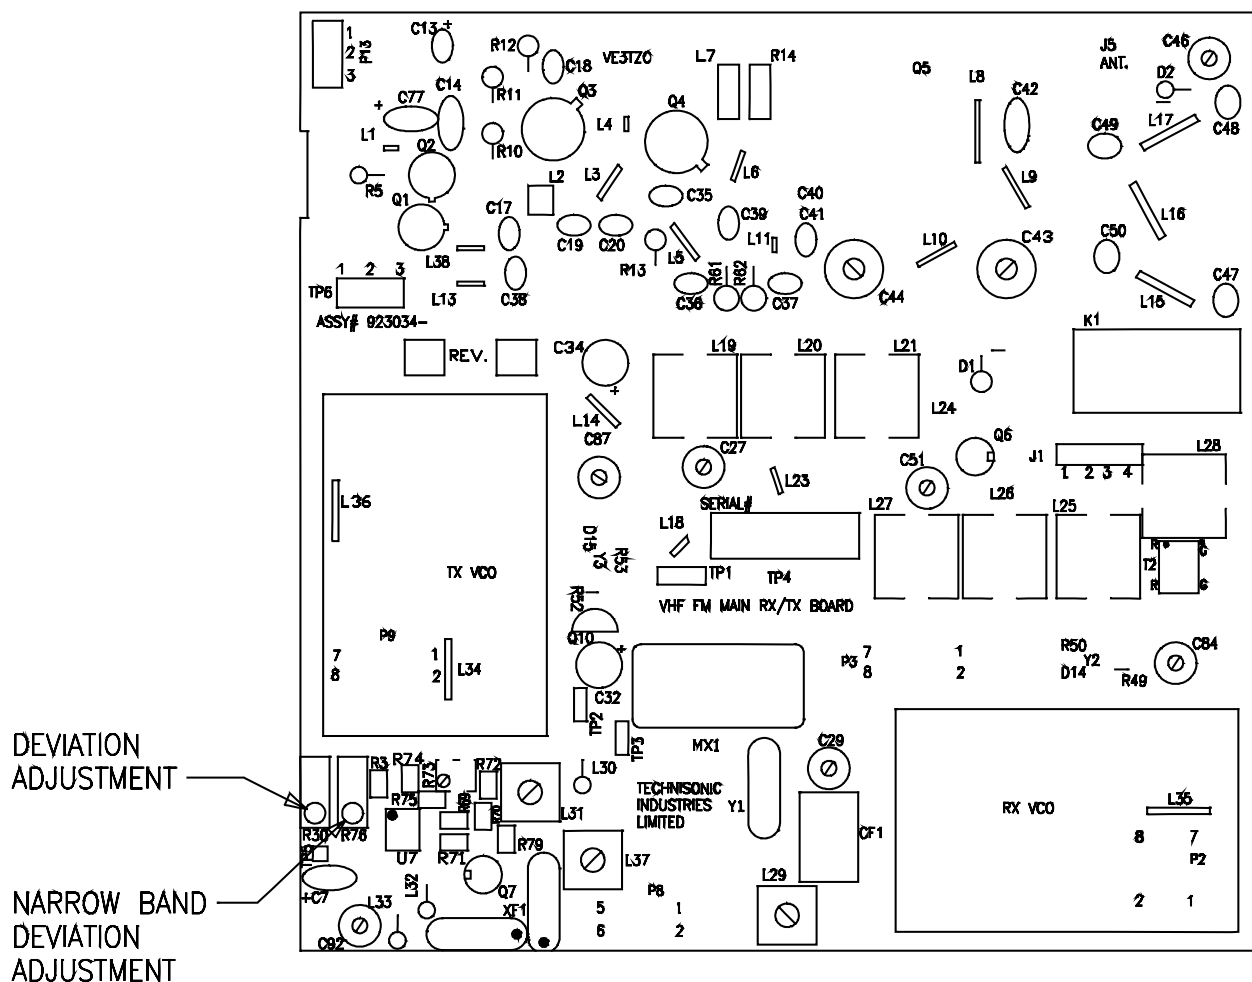

FIGURE 3.5 Deviation Adjustment Potentiometer Location
4. Adjust the wideband deviation limit potentiometer, R30 on the VHF Rx/Tx module (see Figure 3-5), to produce a ± 4.25 kHz deviation. Select narrow band mode on the VHF band and adjust the narrowband deviation limit potentiometer, R76 on the VHF Rx/Tx module, to produce a ± 2.15 kHz deviation.